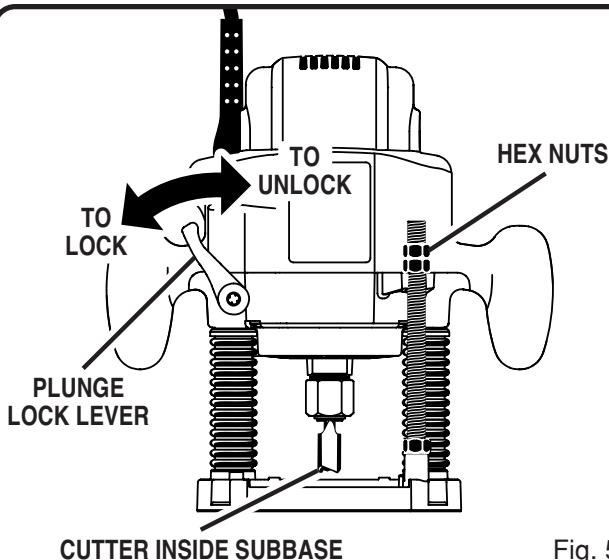

Fig. 5
See Figures 5, 6 and 7.
- Raise cutter by unlocking plunge lock lever. See *Figure 5*.